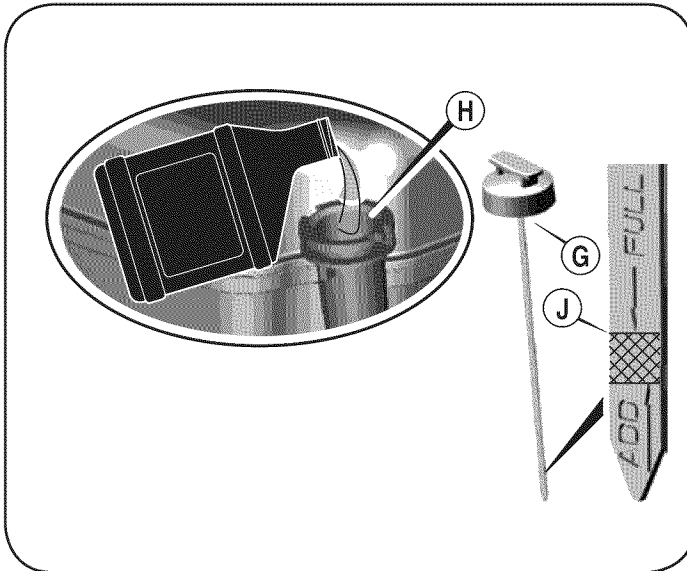

Figure 12
1. Remove oil fill dipstick (G). See Figure 12.
2. With the mower on level ground, empty entire contents of oil bottle provided into the engine oil fill (H).
3. Insert and tighten the oil fill dipstick. Remove it to check the oil level. See Figure 12.
4. If the oil level is near or below the lower limit mark on the dipstick, remove the oil fill dipstick, and fill with the recommended oil to the upper limit mark (J). Do not overfill.